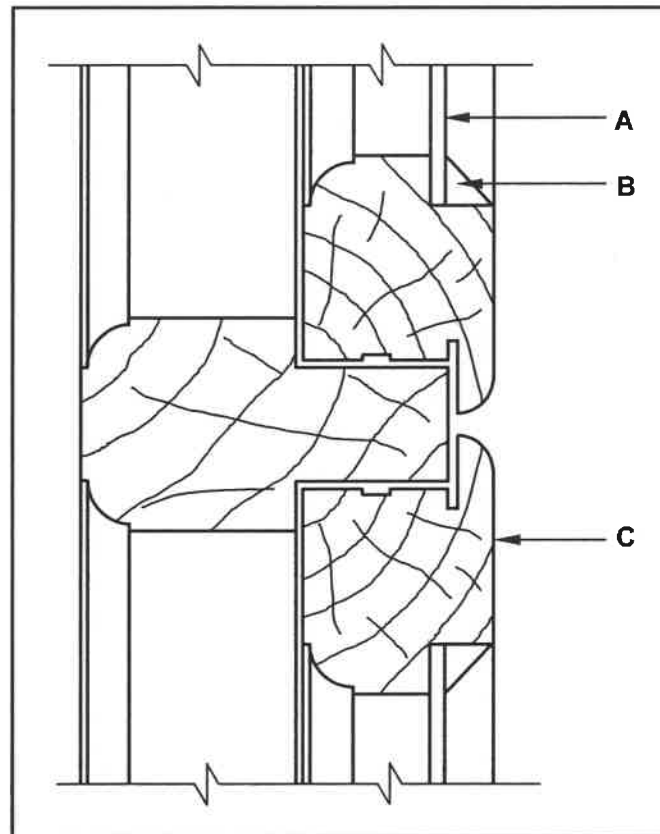

FIGURE 3.1
- 3.1 FIGURE 3.1 below shows a vertical section through a double casement where the rails are lipped and rebated into the frame window with a fanlight. **C** is part of the casement.